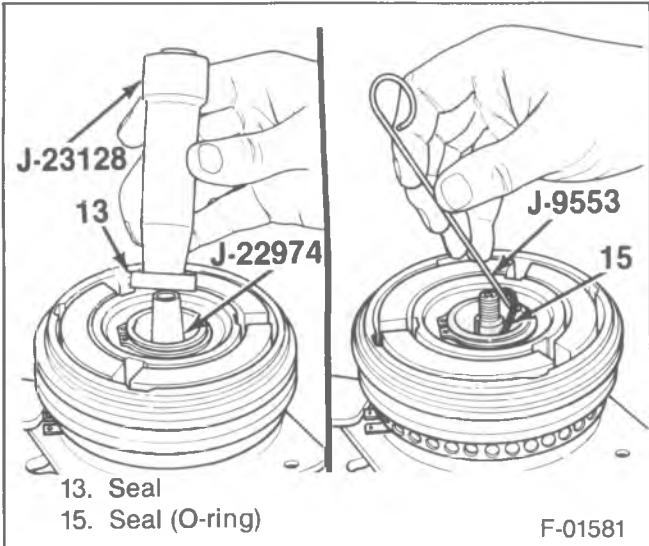
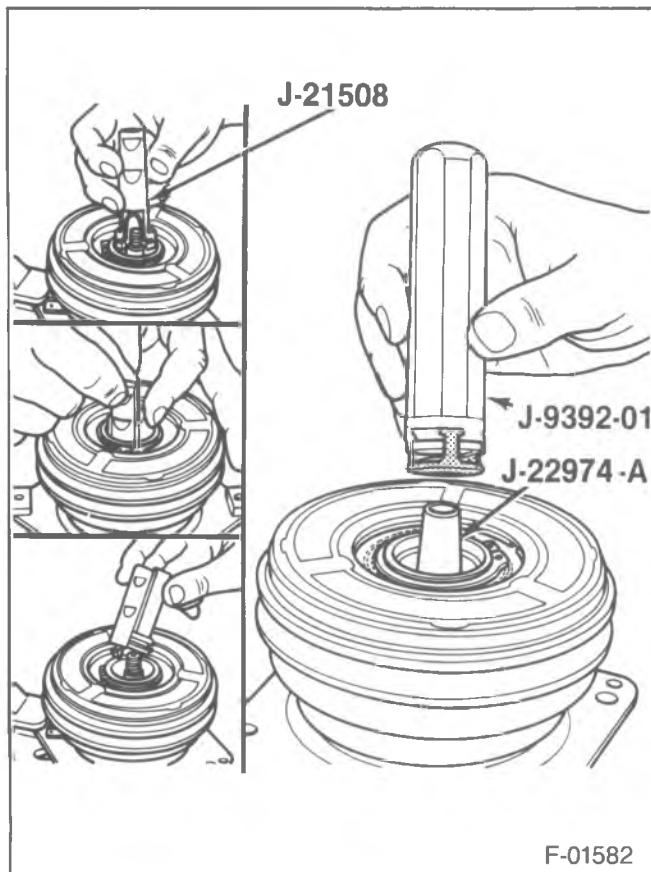

Figure 14—Removing/Installing the Shaft Seal Seat and Seal
Figure 15—Removing/Installing the Shaft Seal and Seal
5. Shaft seat (13) (figure 14).
- Place J-22974-A over the end of the shaft (38) to prevent chipping the ceramic seat (13).
- Lift the seat (13) from the compressor with a rotary motion.
6. Shaft seal (14) (figure 15).
- Insert J-9392-01 over the compressor shaft (39).
- Engage the tabs on the seal (14) by twisting the J-9392-01 downward to the right.
- Engage the tabs and left the seal (14) out of the shaft (39) cavity.
7. Seal (O-ring) (15) with J-9553-01.
- 1. Seal (O-ring) (15) with J-33011 (figure 15).
- Dip the seal (15) into clean 525 viscosity refrigerant oil.
- Rotate J-33011 to seat the seal (15).
- 2. Seal seat (14) (figure 15).
- Coat the seal (14) with clean 525 viscosity refrigerant oil.
- Mount the seal (14) to J-9392-01 by engaging the tabs of the seal with the tangs of J-9392-01.
- Place J-22974 over the end of the compressor shaft (39).
- Slide the seal (14) and J-22974 down onto the compressor shaft (38).
- Twist J-9392-01 to the right (clockwise) while pushing the seal assembly down the shaft (38) until the seal assembly (14) engages the flats on the shaft and seat in place.
3. Ceramic seal seat (13) (figure 14).
- Seal (13) to J-23128.
- Dip the seal (13) into clean 525 viscosity refrigerant oil.
- Install J-23128 and the seal (13) over the compressor shaft (39).
- Push the seal (13) into place with a rotary motion.